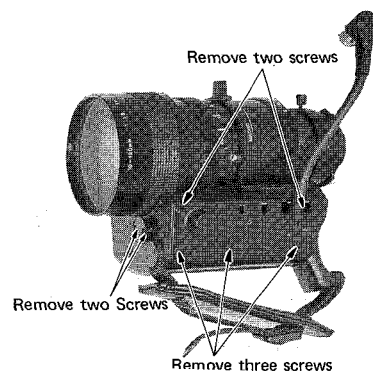

Fig. 15
- Remove two screws which hold the zoom clutch knob and remove the zoom clutch knob. (Fig. 15)